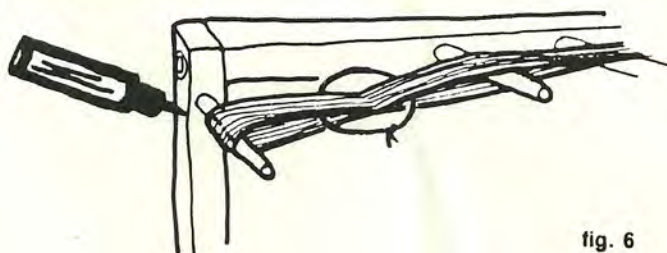

fig. 6
Each figure-eight loop is composed of two warp ends. The warp cross serves to keep the threads in the exact order in which they are wound. When the desired number of warp ends has been measured, tie the yarn loosely to the end post again and cut it off. With a contrasting thread, tie through the warp cross to preserve it (fig. 6). Make another tie at the opposite end of the warp. For method 1 below, mark the ends of the warp loops nearest the cross with a marking pen (fig. 6)
1. Tie a loop of cord loosely through the warp cross. See fig. 6 above.